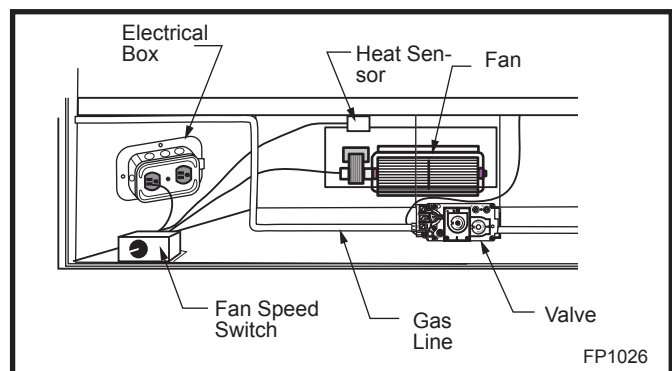

Fig. 63 FK24 fan placement.
1. Slide fan assembly from the left side into the fireplace opening, line up mounting holes with screw studs on back of fireplace and fasten with #10 - 24 hex nuts. (Fig. 63)